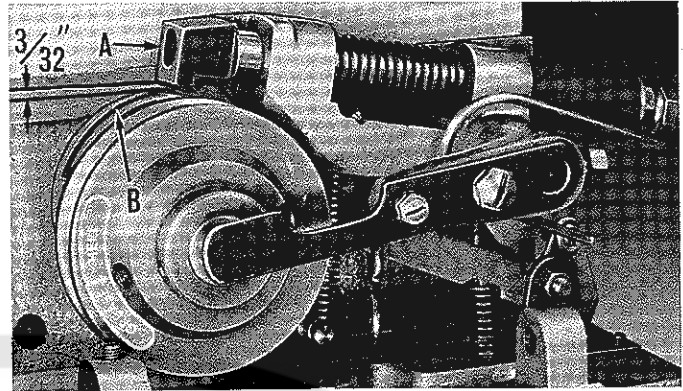

Fig. 3
Depress the treadle to take machine out of stop position, and rotate pulley two complete revolutions in operating direction. Release treadle and measure distance between plunger (A, Fig. 3) and highest point on disc (B). The distance should be  $\frac{3}{32}$  inch.